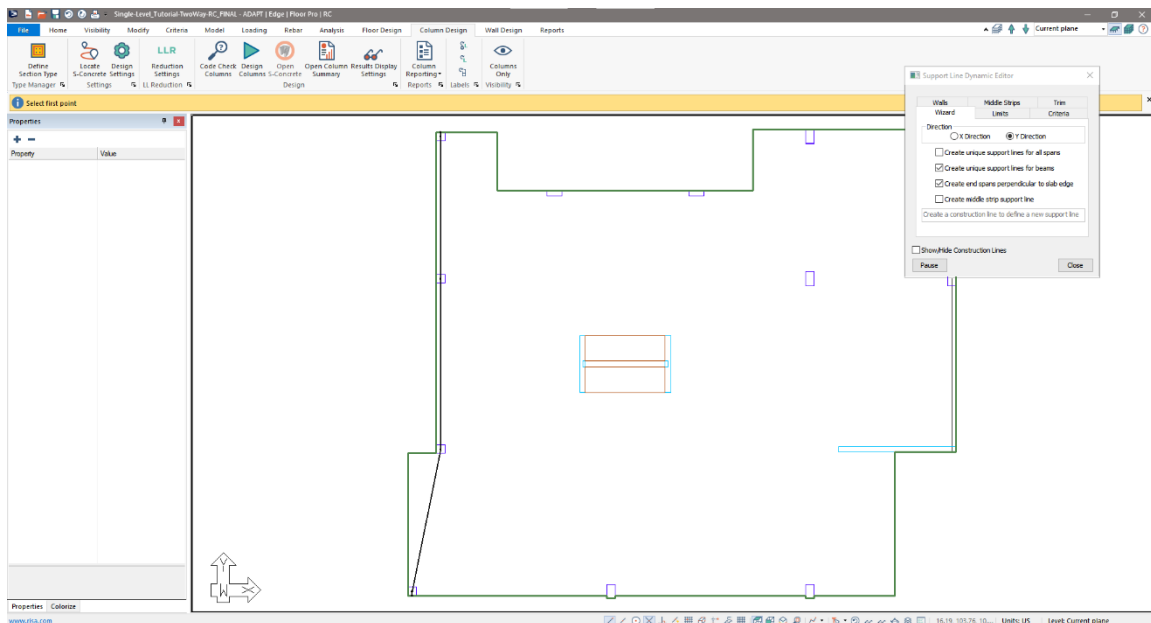

Figure 6-27
- Click on the *Top View*  icon in the **Bottom Quick Access Toolbar**. This will bring you to the view of the model shown in **FIGURE 6-27**.